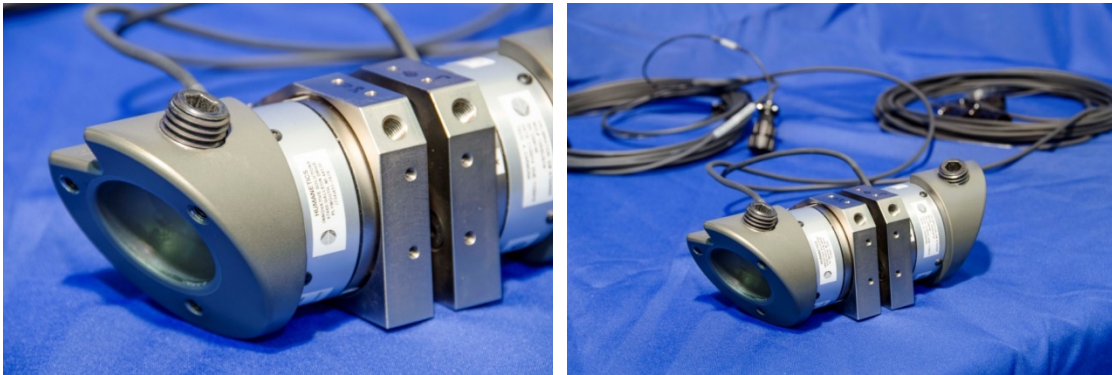

Figure 10-11. Friction adjustment set screws
10.2.2.6 Mount a Friction Adjustment Set Screw Assembly (472-4310) on each top hole of the Left and Right Acetabular Load Cell Assemblies (SA572-S128 and SA572-S129) (Figure 10-11).